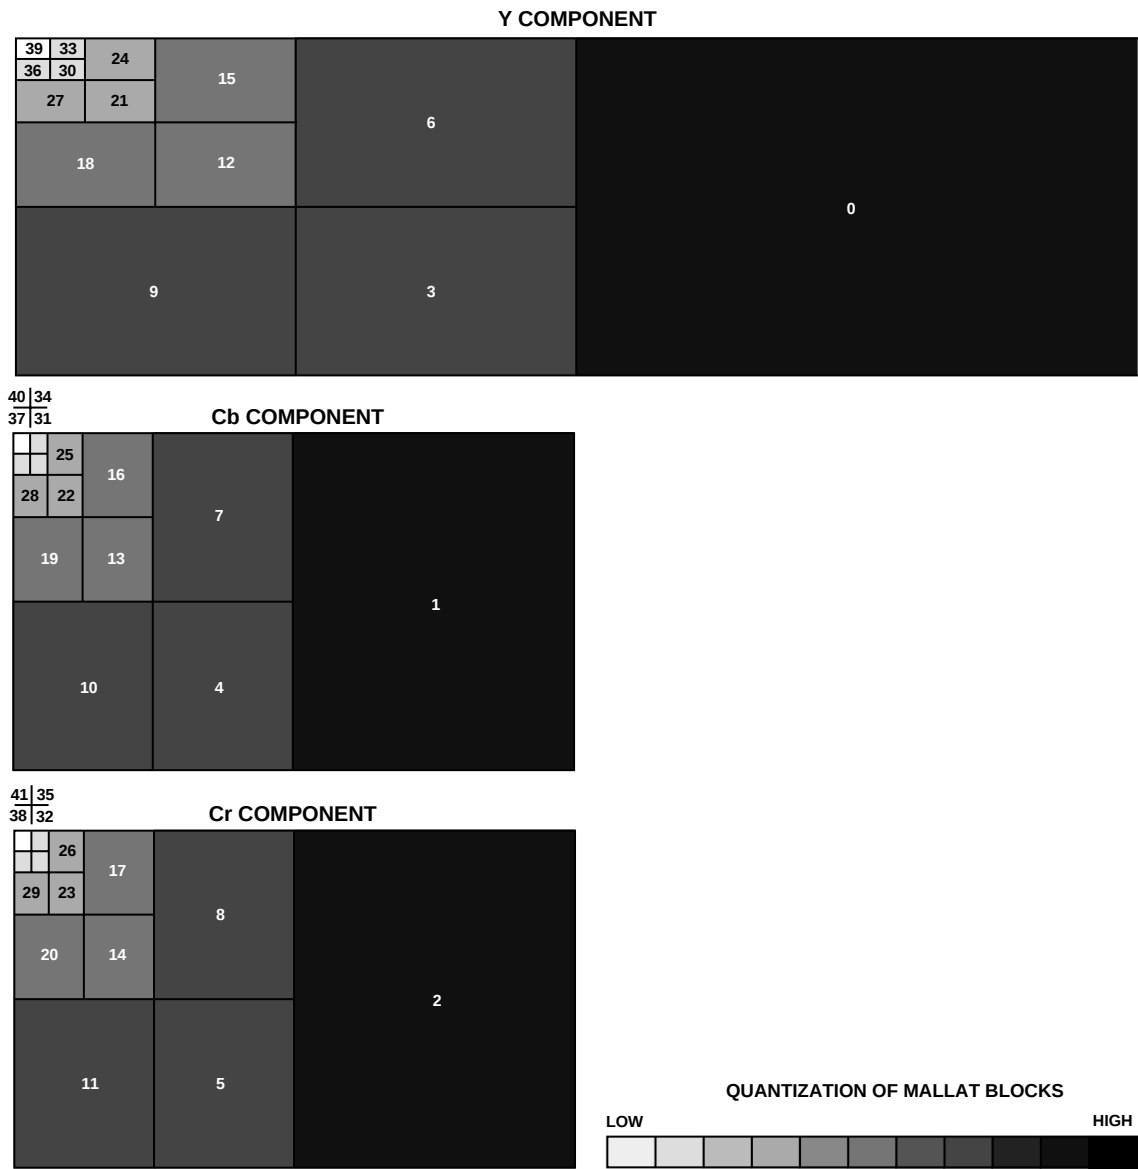

Figure 10. Typical Quantization of Mallat Data Blocks (Graphed)
Figure 10 shows how a typical quantization pattern applies over Mallat block data. The high frequency blocks receive much larger quantization (appear darker) than the low frequency blocks (appear lighter). Looking at this figure, one sees some key point concerning quantization: (1) quantization relates directly to frequency in Mallat block data and (2) levels of quantization range widely from high to low frequency block. (Note that the fill is based on a log formula.) The relation between actual ADV611/ADV612 bin width factors and the Mallat block fill pattern in Figure 10 appears in Table III.
¹The Mallat block numbers, Bin Width factors, and Reciprocal Bin Width factors in Table III correspond to the shading per-cent fill) of Mallat blocks in Figure 10.